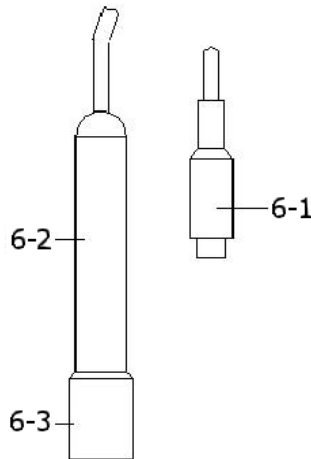

Fig. 3
- 1) Prepare the Conductivity Probe ( included, CDPB-03 ), install the " Probe Plug " ( 6-1, Fig. 3 ) into the " CD Socket " ( 3-15, Fig. 1 ).
- 3) Hold the " Probe Handle " ( 6-2, Fig. 3 ) by hand and let the " Sensing head " ( 6-3, Fig. 3 ) immersed wholly into the measured solution. Shake the probe to let the probe's internal air bubble drift out from the sensing head.
- 2) Install the " Probe Plug " ( 6-1, Fig. 3 ) into the " CD Socket " ( 3-15, Fig. 1 ).
- 4) Hold the " Probe Handle " ( 6-2, Fig. 3 ) by hand and let the " Sensing head " ( 6-3, Fig. 3 ) immersed wholly into the measured solution. Shake the probe to let the probe's internal air bubble drift out from the sensing head.